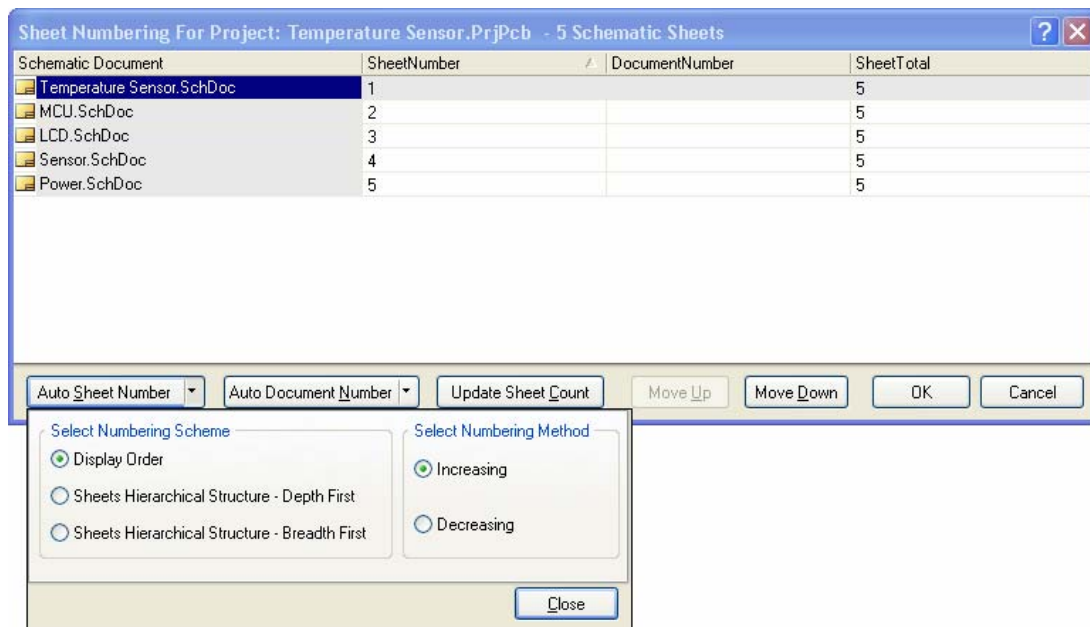

Figure 6. Use the Sheet Numbering feature to review and update sheet numbers.
2. Sort the order of the schematics to match that of Figure 6 using the **Move up** and **Move down** buttons.